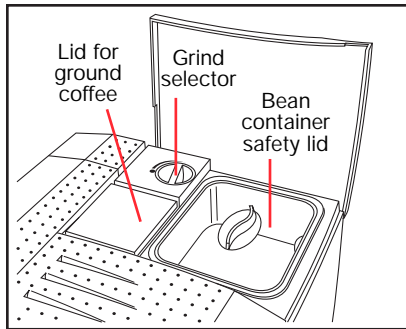

Fig. 4
- 2. Bean container safety lid (Fig. 4)
- 17. Lid for ground coffee (Fig. 4)
- 18. Grind fineness selector (Fig. 4)